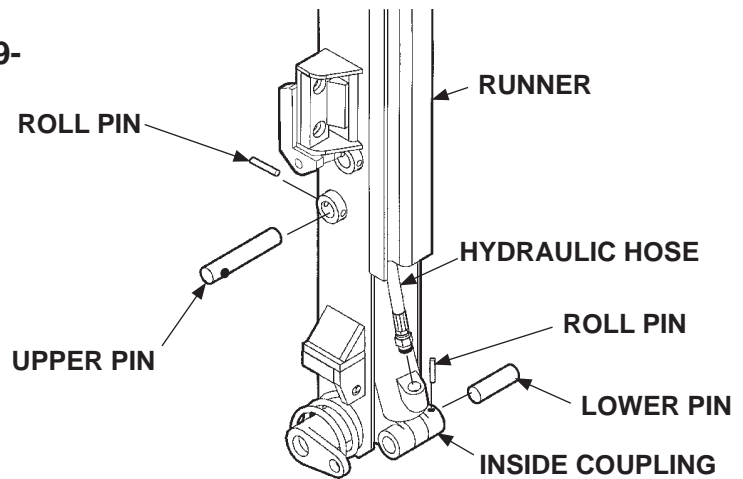

FIG. 19-2
2. Disconnect the hydraulic hose from lower end of cylinder (**FIG. 19-2**). Plug hose to prevent spills.
3. Remove the lower roll pin from inside coupling (**FIG. 19-2**) and then remove lower pin.
4. Remove the upper roll pin (**FIG. 19-2**) from the runner and then remove the upper pin.
5. Remove cylinder from runner (**FIG. 19-2**).
6. Place replacement cylinder in the correct position as shown in **FIG. 19-2**.
7. Install upper pin (**FIG. 19-2**) and roll pin in upper end of cylinder and runner.
8. Install lower pin (**FIG. 19-2**) and roll pin in lower end of cylinder and inside coupling.
9. Reconnect hydraulic hose to cylinder (**FIG. 19-2**).